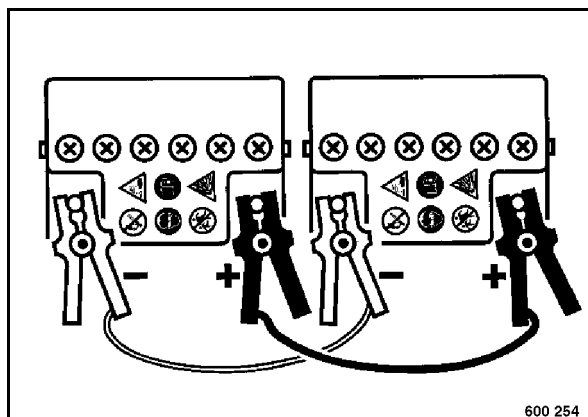

Fig. 78
- Join the plus poles on external battery and starter battery with the jump wire (Fig. 78).